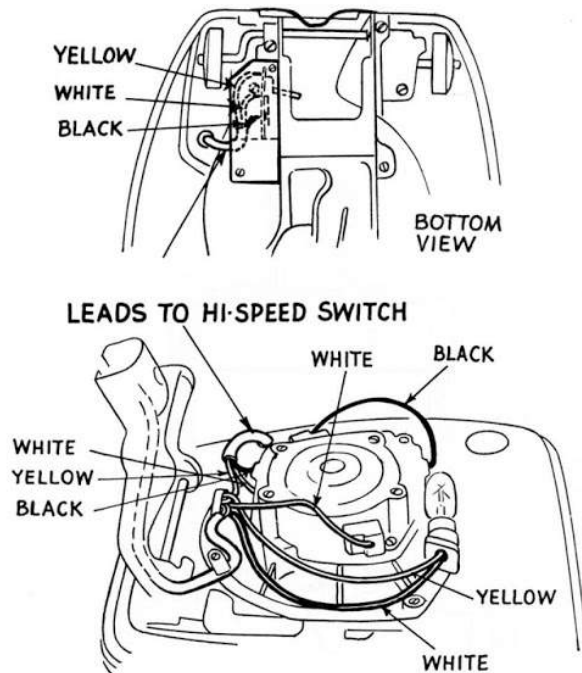

Fig. 1 — Models 65, 66, 67, 68
- (d) The high speed **switch** giving added motor speed and suction for the cleaning tools is located beneath the patent plate. This switch is operated by the converter when it is inserted in the rear of the cleaner. For 65 and 66 connections see wiring diagram. (Fig. 1. Model 31, Fig. 2).